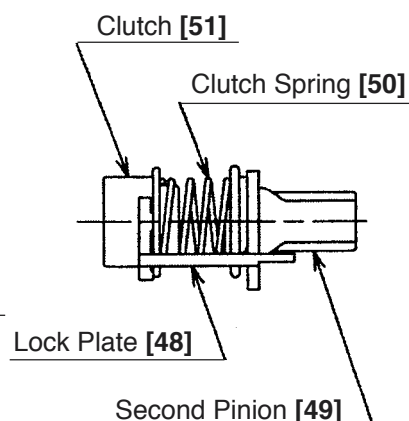

Fig. 15
- Pull out the Second Pinion **[49]**, Clutch Spring **[50]**, Clutch **[51]** and Lock Plate **[48]** (these parts are sandwiched by means of the Lock Plate **[48]** as a unit as shown in Fig. 15) from the end of the Second Shaft **[52]**. Turn the Reciprocating Bearing **[53]** so that the Piston **[39]** is moved to its maximum upper position (Inner Cover Ass'y **[41]** side). The arm of the Reciprocating Bearing **[53]** can then be disconnected from the Piston Pin **[42]**, and the Second Shaft **[52]** and the components mounted on it can be removed from the Inner Cover Ass'y **[41]** as a unit.